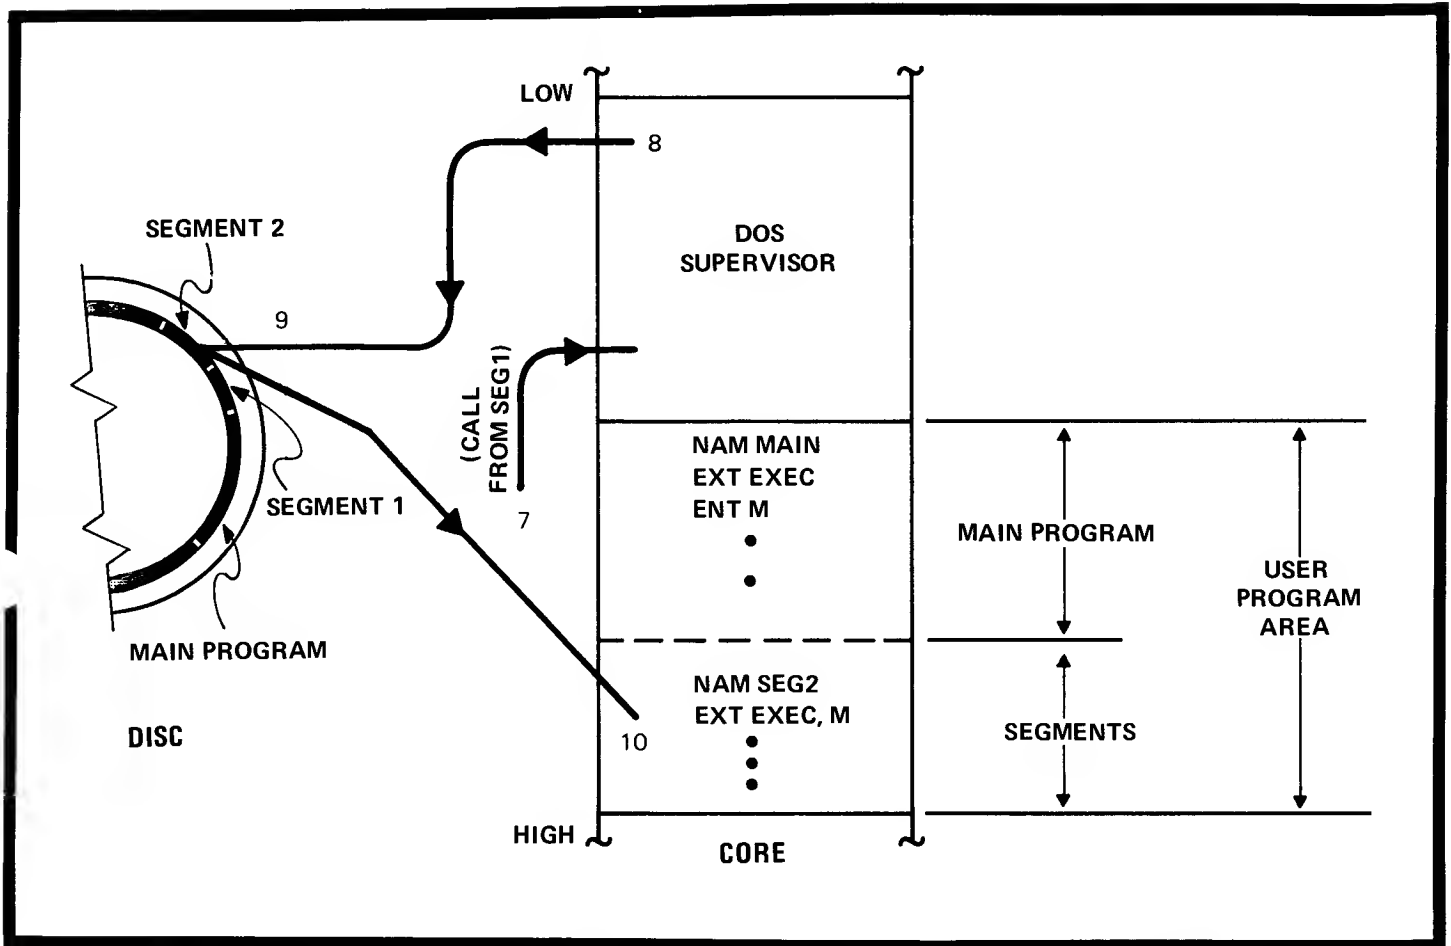

Figure 4-3. Segment Calling Segment
Figure 4-3 shows how DOS processes the request from the segment (7) by locating the segment on the disc (8-9), loading it into core (10), and beginning execution of it.